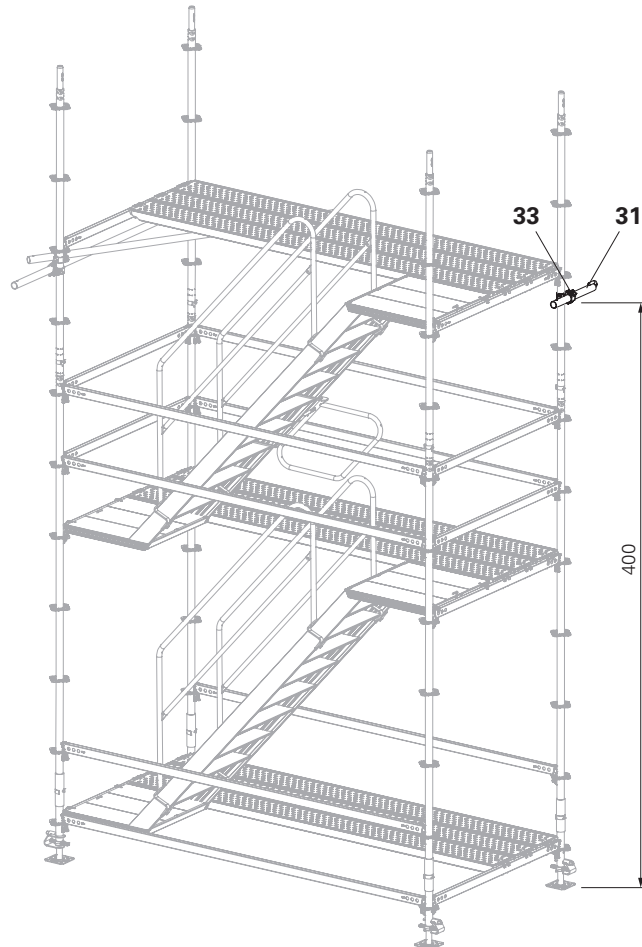

Fig. A4.04
2. Fasten the Standard Coupler RA 48/48 (**33**) to the inner leg with Wall Tie UWT 45 (**31**). (Fig. A4.04)